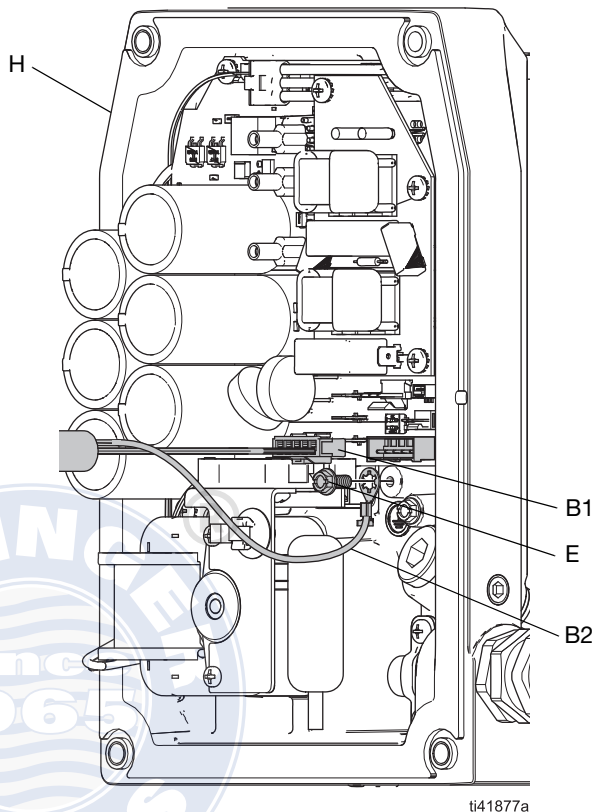

FIG. 5: I/O Cable Wire and I/O Cable Ground Wire Connection
2. Remove the control cover (F). See your related motor manual. See **Related Manuals**, page 2.
3. If installing the I/O cable assembly for the first time, remove the plug (G) from the I/O port (G1).
4. Install the I/O cable assembly (B):
- b. Apply thread sealant to the threads of the cable gland base (A), and screw into and tighten securely into the I/O port (G1).
- c. On the back side of the control cover (F), slide the I/O connector (B1) and ground wire (B2) through the clamp base (C) and jam nut (C2).
- d. Screw the clamp base (C) into the back side of the port (G1), and tighten the jam nut (C2) against the back side of the cover.
- e. Position the short piece of cable sheathing so it is centered inside the clamping area of the clamp base (C), and attach clamp (C1) to the base (C) using screws (D) and tighten securely.
- f. Securely tighten the clamp top fasteners (D).
5. Install the I/O cable ground wire (B2) and ground fastener (E) to the hole in the control housing (H). Securely tighten. See **Connect to the Control Board**, page 9.
6. Connect the plug on the I/O cable (B1) to the socket on the control board. See FIG. 5.
7. Install the control cover (F). See your related motor manual. See **Related Manuals**, page 2.
1. Install the I/O cable ground wire (B2) and ground fastener (E) to the hole in the control housing (H). Securely tighten. See FIG. 5.
2. Connect the plug on the I/O cable (B1) to the socket on the control board. See FIG. 5.